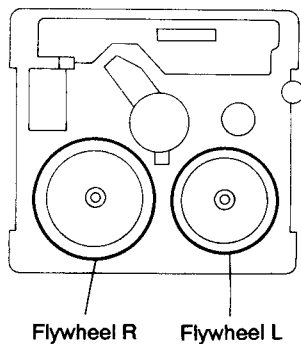

Fig.5-32
■ Removing the Flywheel (See Figs. 5-32,5-33)
3. After turning over the cassette mechanism, remove the slit washers ③ and ④ fixing the capstan shafts R and L, and pull out the flywheels R and L respectively from behind the cassette mechanism.